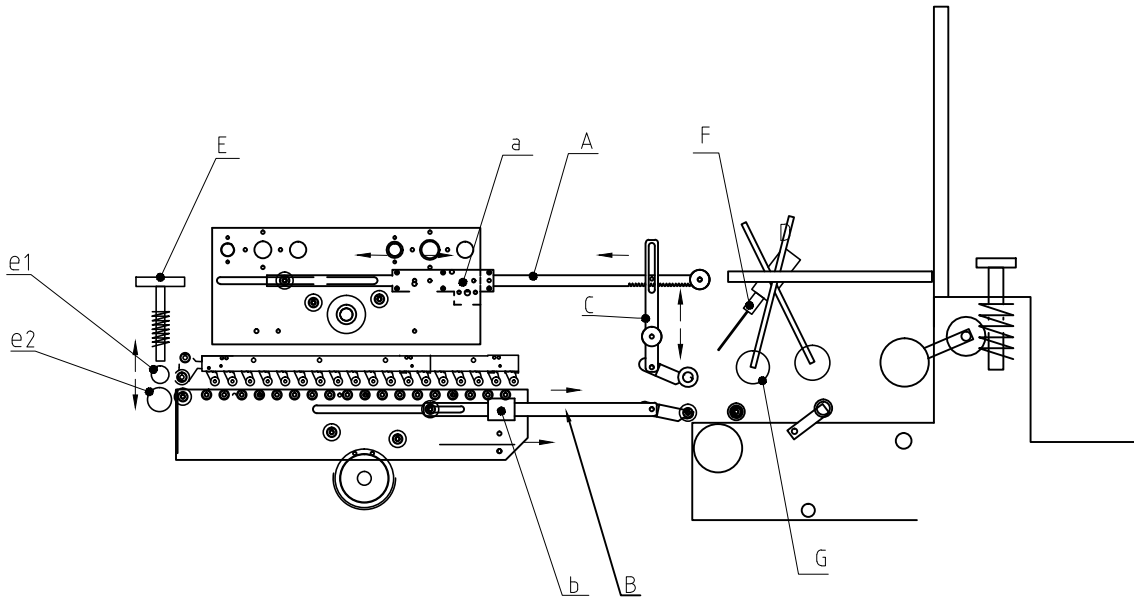

Fig 5
- ① The adjustment of base is the same with the pre-folding unit. The interval should be the same with the folding unit. All subassemblies are retained by clamping screws. Loosen all the clamping screws to adjust the desired position of each part, refer to Fig 5.
- ② In Fig.5, turn the knob a to adjust certain distance of upward paper delivery roof bar. Loosen clamping screw b to adjust the certain distance of downward paper delivery roof bar. The two roof bars raise corresponding distance to fit the delivery of paper box of different length.